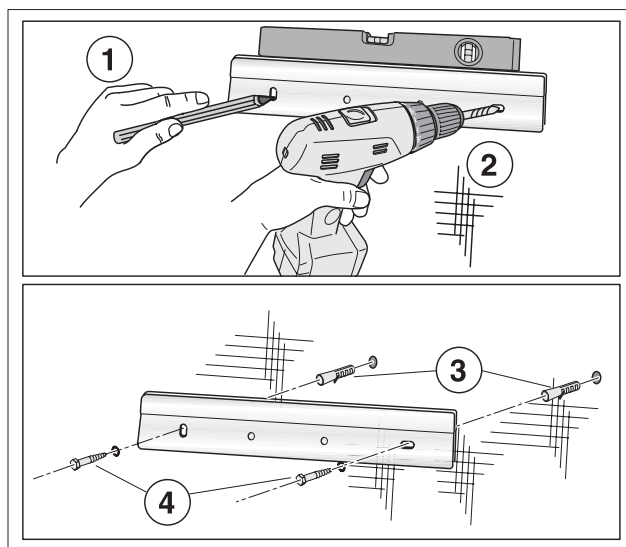

fig. 7 Installing the wall bracket
- Mark out both holes using the wall bracket (fig. 7, **step 1**) using a spirit level.
- Drill 2 holes in the wall (fig. 7, **step 2**).
- Insert the 2 enclosed plugs in the drilled holes (fig. 7, **step 3**).
- Install the wall bracket, using the 2 enclosed screws (fig. 7, **step 4**).